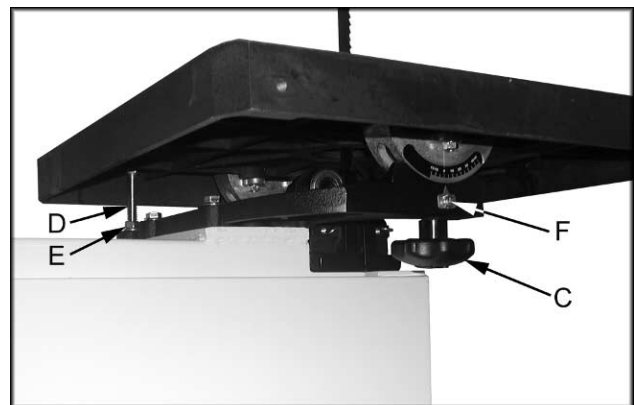

Figure 6
4. Line up the trunnions so that the bolts feed through the trunnions support bracket. Secure the table with two lock knobs (C, Fig. 6). Reinstall the table insert and table pin.
2. Loosen lock knobs (C, Fig. 6) and tilt table until it rests against table stop bolt (D, Fig. 6). Tighten knobs.
5. Loosen lock nut (E, Fig. 6) and turn table stop bolt (D, Fig. 6) until it contacts the table. Tighten the nut (E, Fig. 6) to hold table stop in place. When tightening the nut hold the table stop bolt in place with a wrench to prevent movement.
6. If necessary, adjust pointer (F, Fig. 6) to zero.